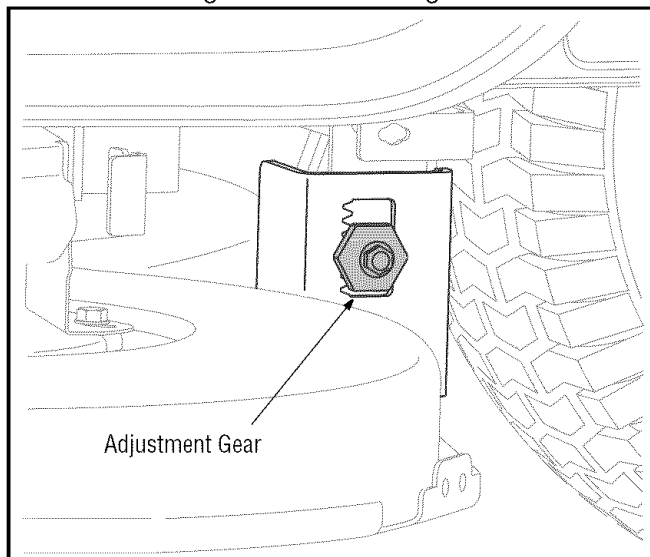

Figure 10
- Locate the jam nut and lock nut found on the front side of the stabilizer bracket. See Figure 10. After loosening the jam nut:
- Loosen, but do NOT remove, the hex screw on the left deck hanger bracket. See Figure 10.